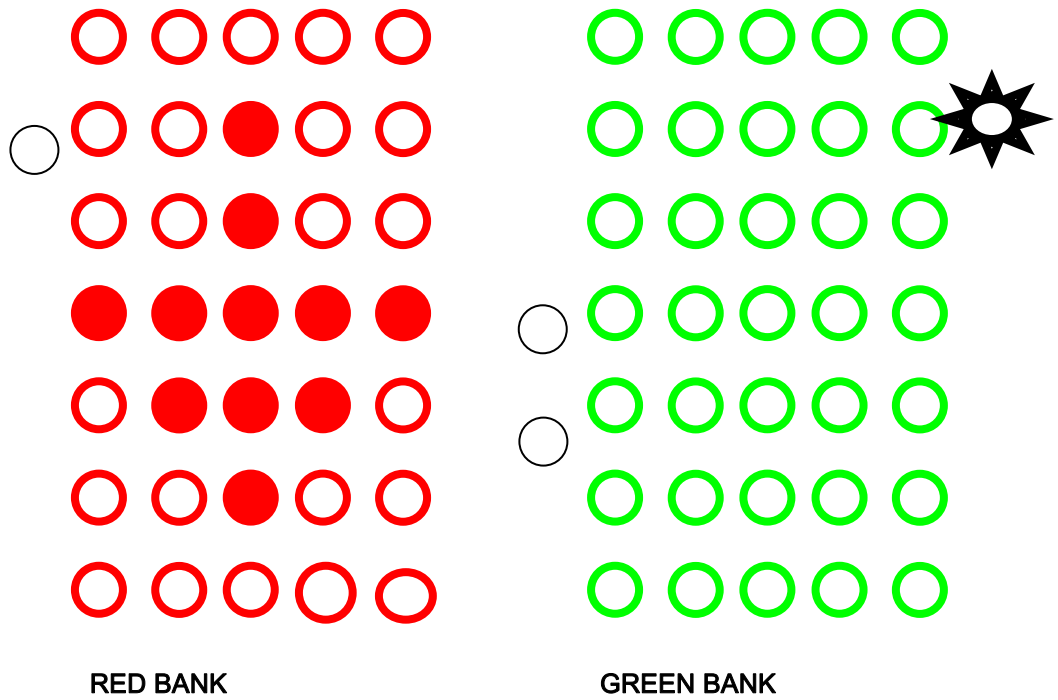

FIGURE 10 - GROUND FAULT
All LEDs on GREEN are ON and FLASHING (see Figure 10)
Check the rack automation equipment for a **NO** "PERMISSIVE" signal (Figure 10).
- 4 - Disconnect the test source. Display should have RED "▼". (Figure 10)